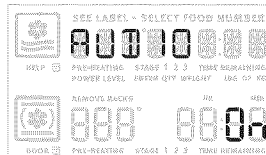

Fig. 1
2. Use the +hi or -lo to choose the off option -Fig. 1- or the on option -Fig. 2-	+ - hi or lo